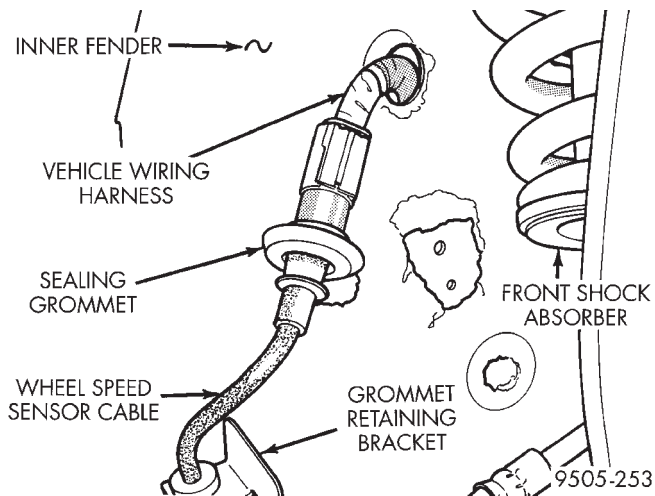

Fig. 8 Wheel Speed Sensor Cable Connection To Vehicle Wiring Harness
- (12) Remove speed sensor cable sealing grommet from inner fender (Fig. 8). Disconnect the wheel speed sensor cable from the vehicle wiring harness (Fig. 8). Push vehicle wiring harness back through hole in inner fender.
fender. Connect vehicle wiring harness to wheel speed sensor cable (Fig. 8).